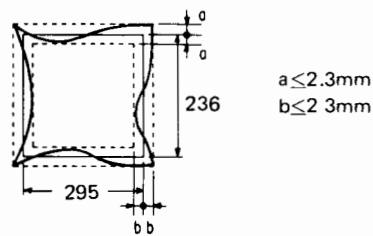

Figure 6-4. Top and Bottom Distortion
7. Adjust RV-104 (BOT AMP), RV-105 (BOT PHASE), RV-106 (TOP AMP), and RV-107 (TOP PHASE) to minimize distortion at top and bottom of display. See Figure 6-4.